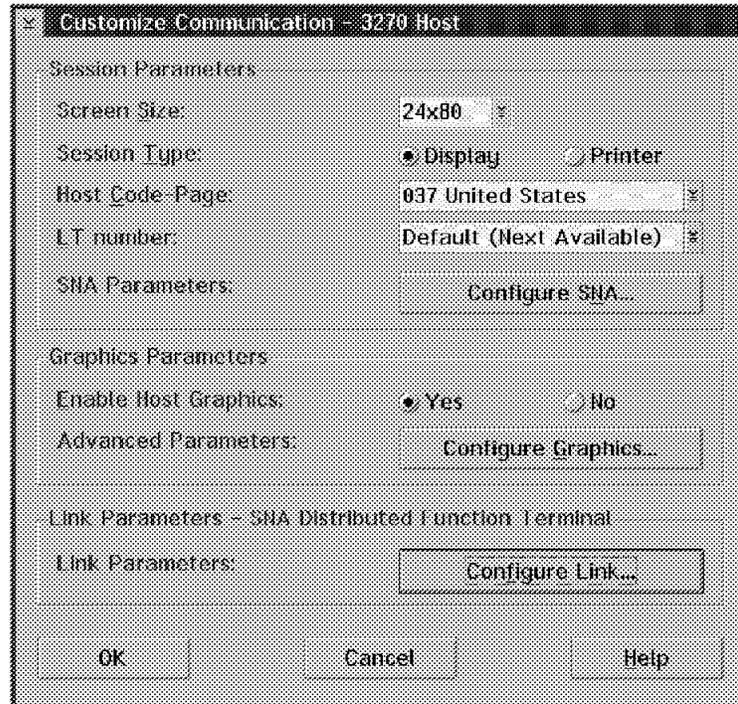

Figure 28. Customize Configuration -3270 Host window - DFT attachment
4. Click on **Configure...**, which takes us to the Customize Configuration-3270 Host window shown in Figure 28 on page 39.